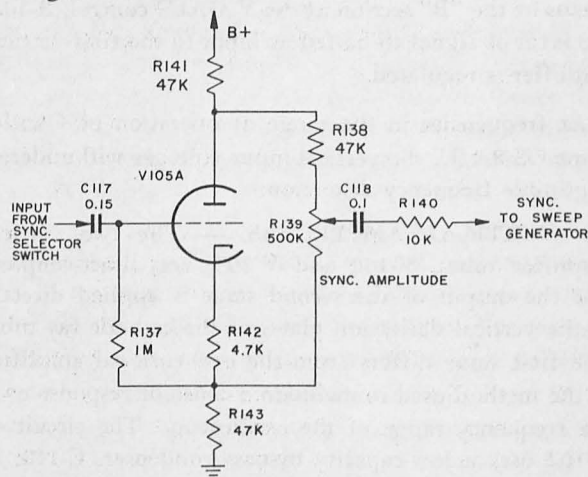

Figure 2-3. Synchronization Amplifier, Simplified Schematic
f. SYNCHRONIZATION AMPLIFIER.—The output of the SYNC SELECTOR switch is fed through capacitor C-117 to the grid of the synchronization amplifier, V-105A, as shown in figure 2-3, a partial schematic diagram of the circuit. The grid of V-105A is returned to the junction of R-142, R-139, and R-143 through R-137.